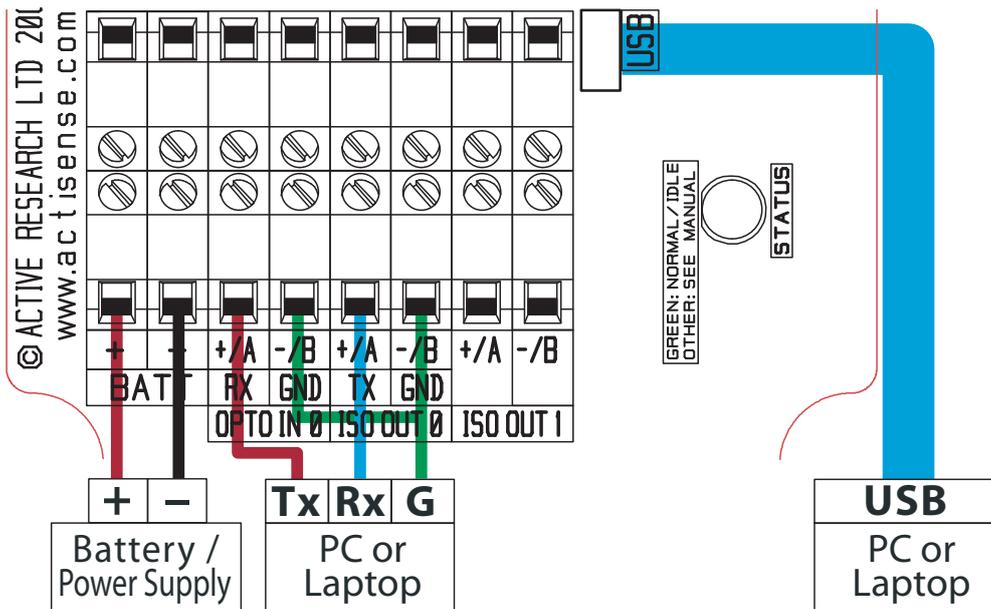

Figure 3 – RS232, USB and Battery connections
2. A minimum of 3 cores are required in a shielded cable. Higher quality cable will yield higher performance (SNR). Most typical cables have two twisted pairs inside. In this case, use one pair for the **TX** line and one for the **RX** line. Use the spare wire in each pair as ground, and connect the cable shield to ground only at the computer end. Please note that both the Rx and Tx grounds on the NDC-4 must be connected to the PC's ground, as shown in figure 3 above.